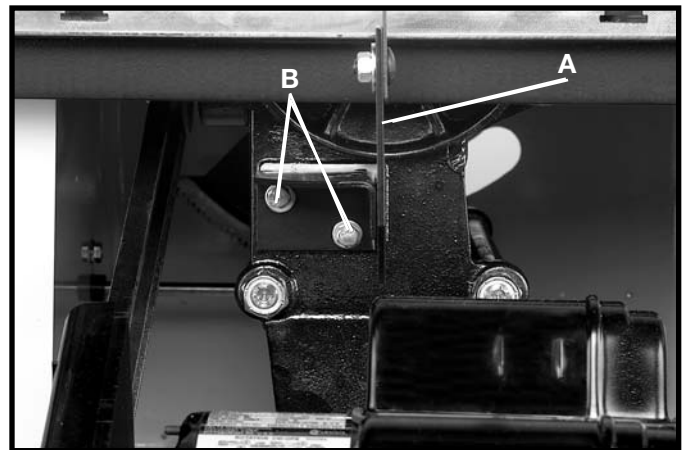

Fig. 26
1. Fasten the rear splitter mounting bracket (A) Fig. 26, to the rear trunnion using the two 1/4-20 x 3/4"- hex head screws (B) and flat washers. Do not completely tighten the two screws (B) at this time.